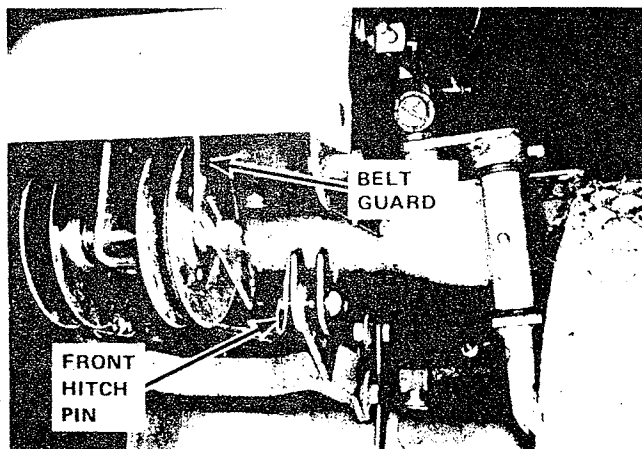

FIGURE 1
4. Attach the mower hitch arms to the ears on the tractor front axle. Use two pins and spring clips, placing them through the front holes in the ears and the hole at the end the hitch arms. (See Figure 1).
6. Feed one end of the belt over the tractor axle, through the belt guard and place it over the large engine pulley. Place the belt over the two front idler pulleys and under the axle to fasten the other end around the mower pulley. (See Figure 1).